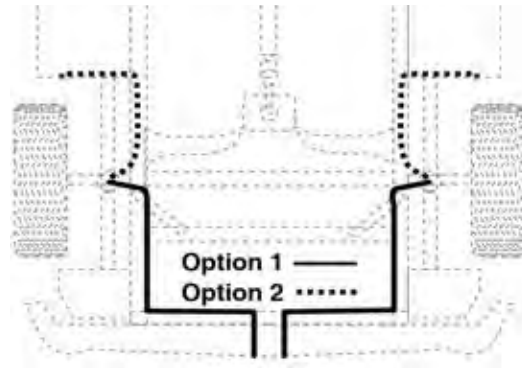

fig. 5
6. Route the air line along the frame to the air fitting on the air spring (Figure 5). Keep at least 6" of clearance between the air line and heat sources, such as the exhaust pipes, muffler, or catalytic converter. Avoid sharp bends and edges. Use the plastic tie straps (BB) to secure the air line to fixed, non-moving points along the chassis. Be sure that